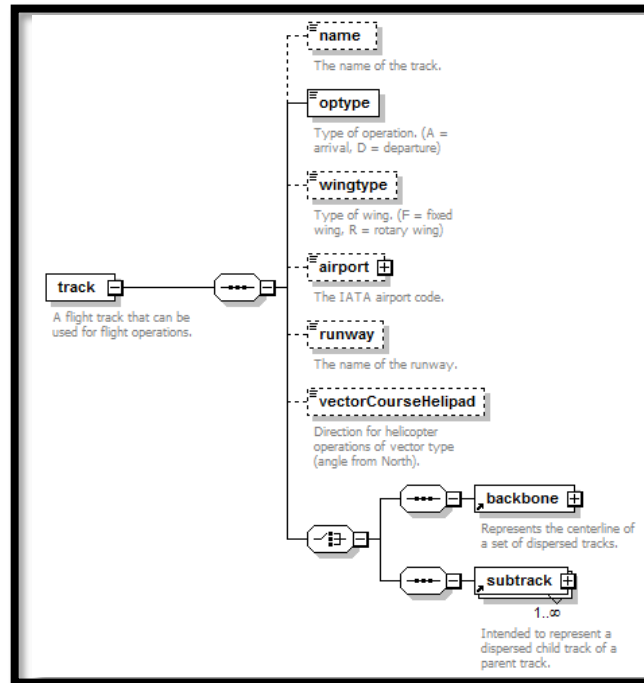

Figure 54. XML element track
9. **AsifXml/trackOpSet/track** (Figure 54):